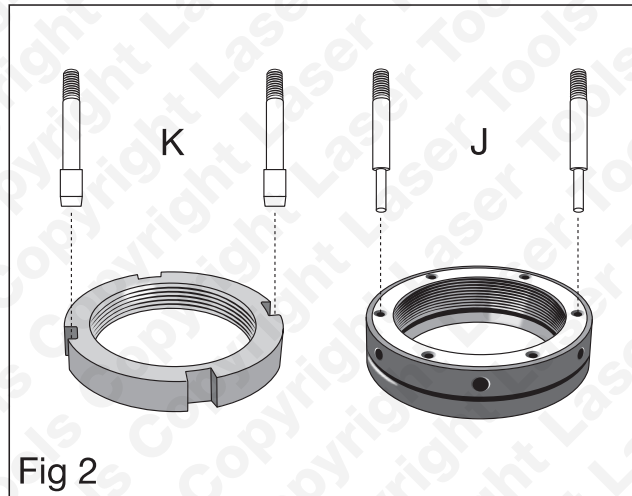

Fig 2
3. Refer to Figure 2: If the component to be removed uses round or square peg locating holes, then choose the correct size locating pegs from the kit (**H**, **I** or **J** round locating pegs; **K**, **L** or **M** square locating pegs) and securely fit the pair of pegs to the locating peg threaded sockets (**E**) in the clamp jaws.